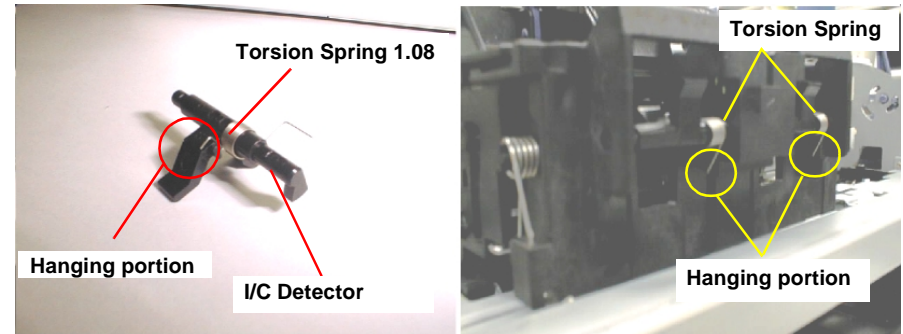

Figure 4-54. Assembling the I/C Detector Lever
- Make sure that the Torsion Spring 1.08 is hung onto the protrusion of the I/C Detector Lever and the hook on the CR frame correctly. Refer to Figure 4-54.